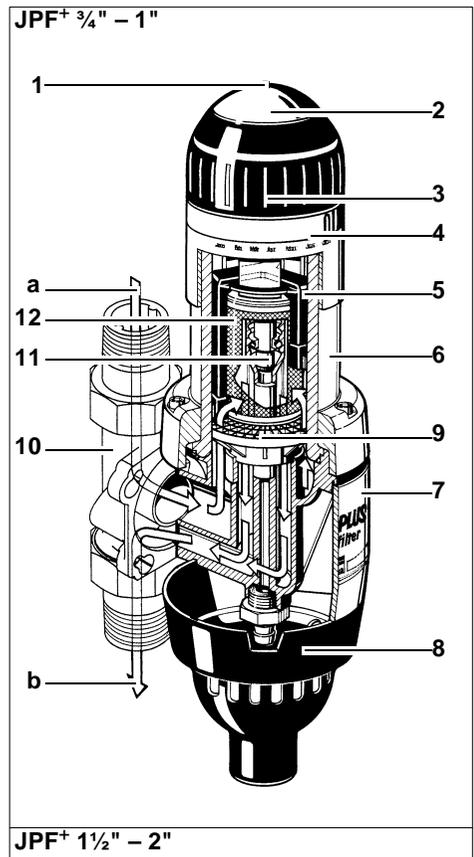

Abb. 8: Functional description
After reaching the upper limit stop, turn the hand-wheel (3) clockwise to re-close the flushing valve (11). The sieve cloth in the fine filter (12) is then sucked through the suction nozzle a second time. Repeat this procedure until reaching the lower limit stop. During this step, the suction nozzle does not only clean the sieve cloth in the fine filter (12) but also the transparent filter hood (6) using a rubber lip on its exterior side (see Fig.8).